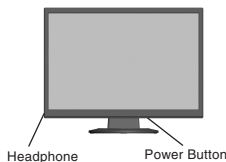

Figure C.1
3. Connect the 15-pin mini D-SUB of the video signal cable and Audio Cable to the appropriate connector on the back of the monitor (**Figure B.1**). Connect the Headphone (not included) to the appropriate connector at the left of the monitor (**Figure C.1**).
- Turn on the monitor with the bottom power button and the computer (Figure C.1).